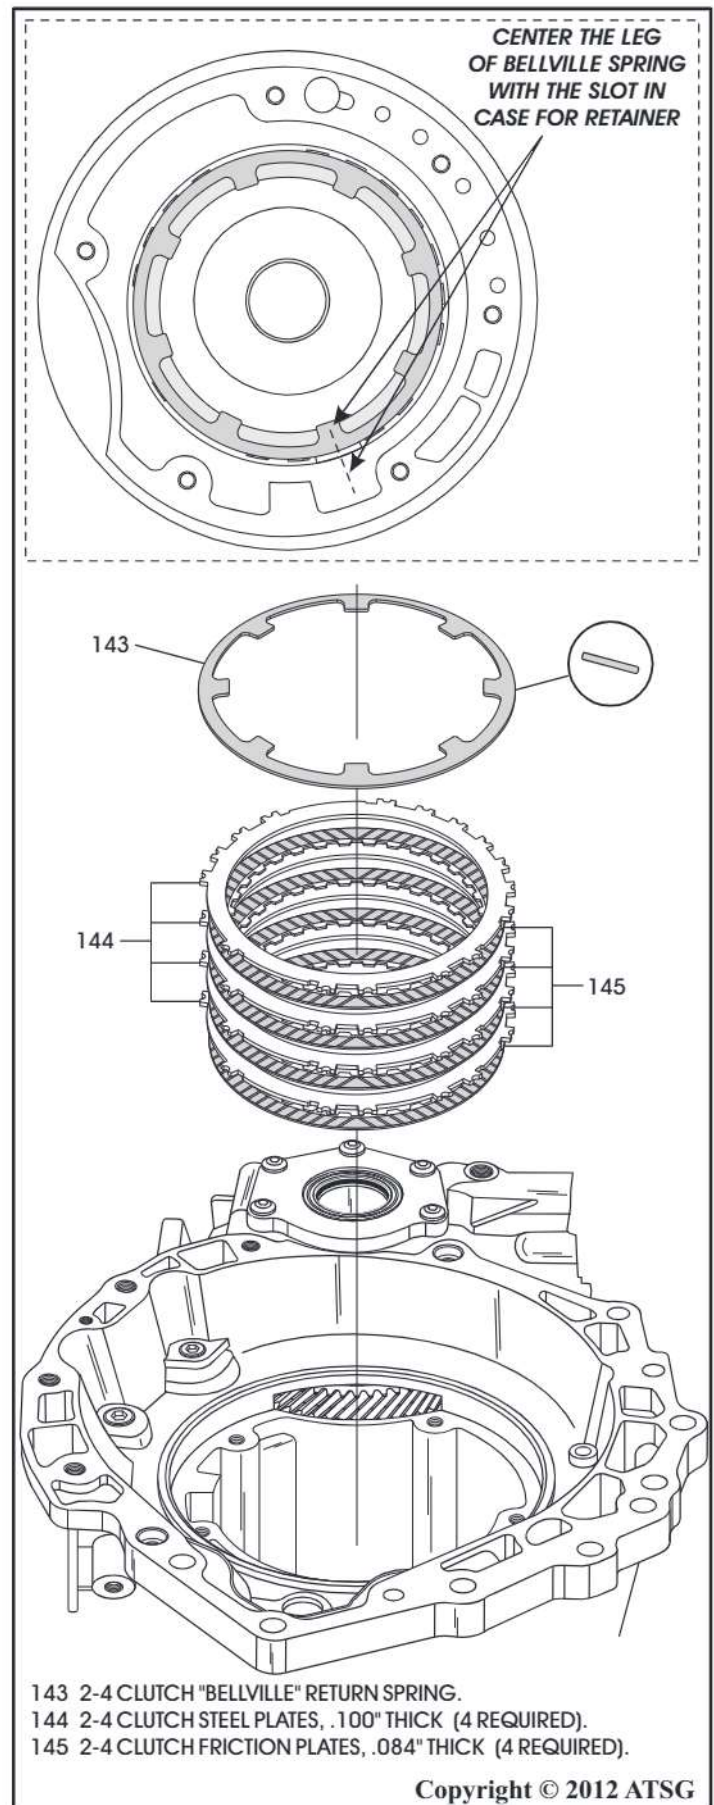

Figure 249
39. Install the 2-4 clutches into the case beginning with a friction plate and alternating with steel plates, as shown in Figure 249, until you have installed 4 of each.
40. Install the 2-4 clutch bellville return spring on top of the last steel plate in the direction shown in Figure 249.
Note: Rotate the bellville spring so that center of one leg is on same centerline as the slot in case for the 2-4 retainer locating tab, as shown in Figure 249.